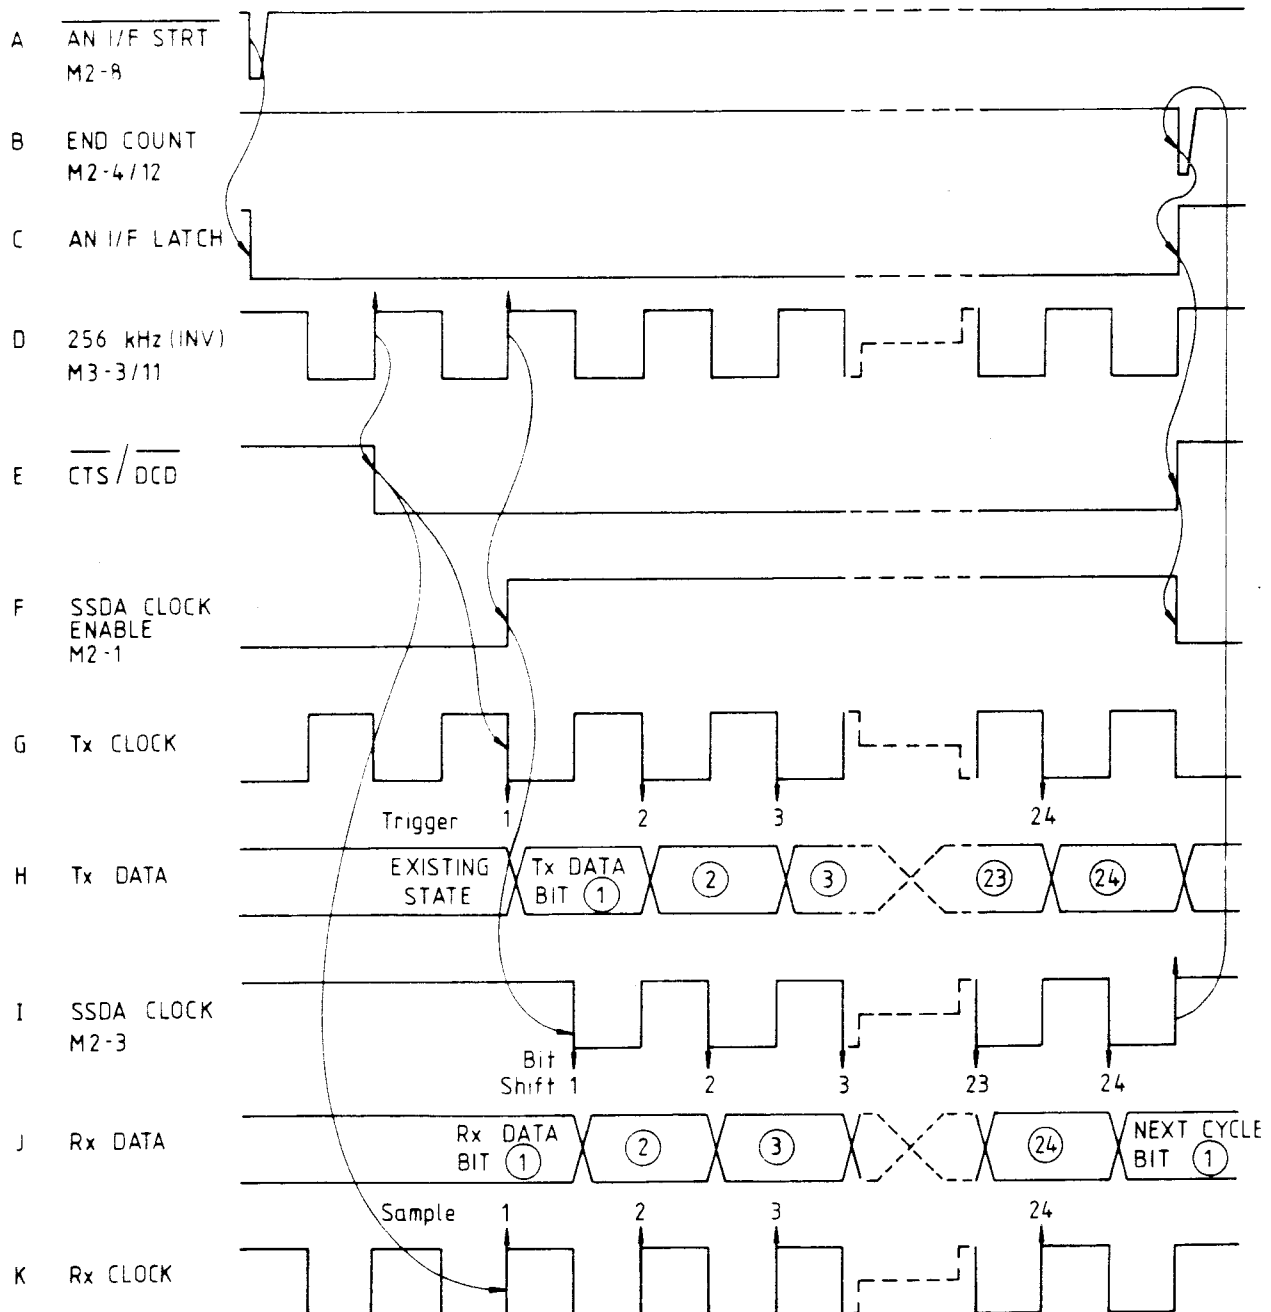

FIG. 6.16 SSDA CLOCK GENERATOR WAVEFORMS
(Fig. 6.16)
After  $\overline{\text{CTS}}$  is set to Logic-0, the negative transition of the first full positive pulse triggers the first serial Tx data bit setup. (Refer to Fig. 6.16 Waveforms G and H).
'Rx CLOCK' is an inverted version of the 256kHz squarewave. After  $\overline{\text{DCD}}$  is set to Logic-0, the positive transition of the first full Rx clock cycle triggers the SSDA. The SSDA thus samples the first Rx data bit before the SSDA clock triggers the shift registers. (Fig. 6.16 Waveforms K and J).
(Refer to Fig. 6.16 Waveform I).
- Removes 'RESET' to enable counters M4 at M4-7 and M4-15. (Refer to Fig. 6.16 Waveforms A and C).
(Refer to Fig. 6.16 Waveforms D and E).
(Refer to Fig. 6.16 Waveforms D, F and I).
(Refer to Fig. 6.16 Waveforms I, B, C, E and F).